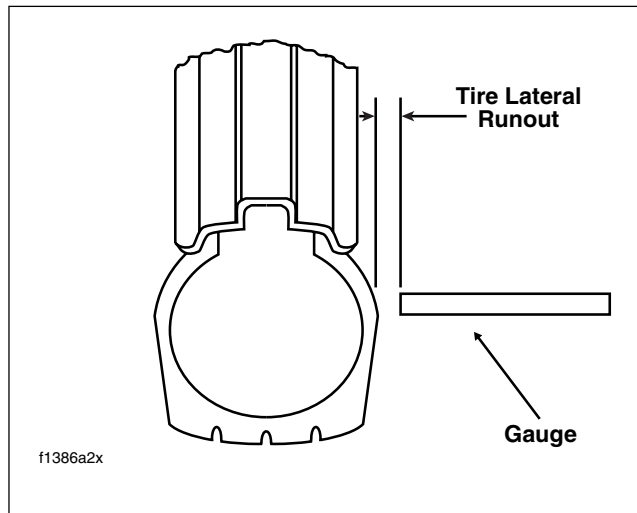

Figure 2-36. Checking Tire Lateral Runout
1. Check runout by turning wheel on axle, measuring tread runout. See Figure 2-36.